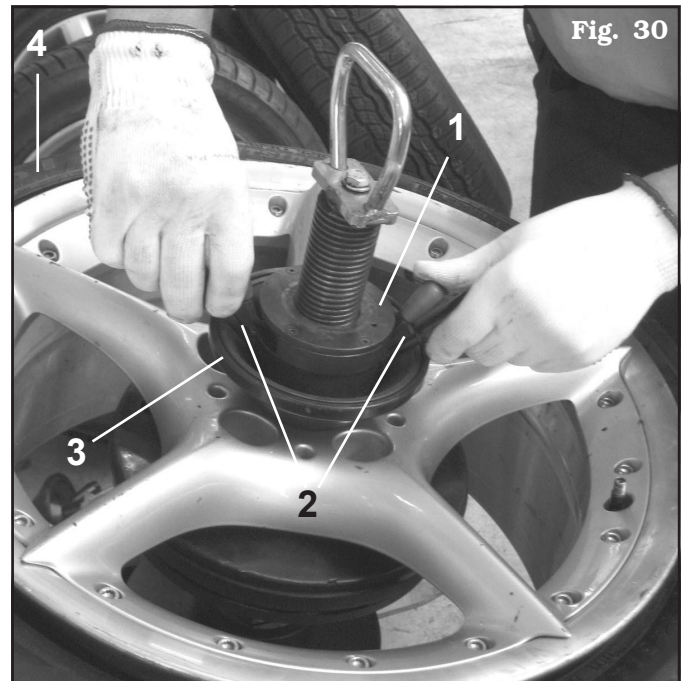

Fig. 30
6. Then, turn the ring nut (**Fig. 30 ref. 1**) through the external levers (**Fig. 30 ref. 2**) until the cone complete clamping (**Fig. 30 ref. 3**) on the wheel (**Fig. 30 ref. 4**).